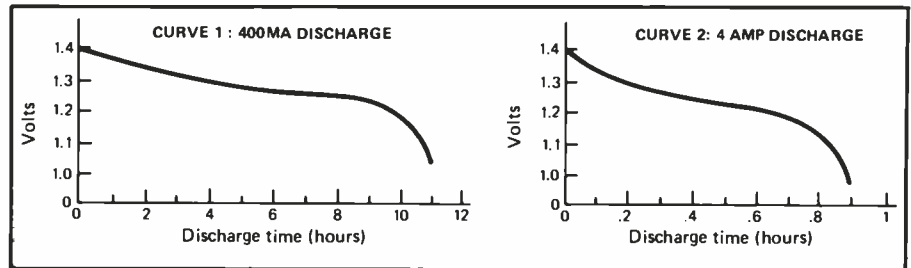

Fig. 1. Discharge curves of typical 4-ampere-hour D cell when discharged at 10-hr (curve 1) and 1-hr (curve 2) rates. The 1-hr rate yields fewer AH of service.
Ni-Cds are rated in ampere hours (AH): the product of current in amperes and time in hours. However, the amount of energy that can be extracted from a given Ni-Cd battery is a function of the total amount of discharge time. This is illustrated in Fig. 1, which shows two discharge curves of the same D-size Ni-Cd cell rated at 4 AH. Note that the total number of ampere hours delivered by the cell is greater when it is discharged over an 11-hour period at 400 milliamperes than when it is discharged over a 54-minute period at 4 amperes.